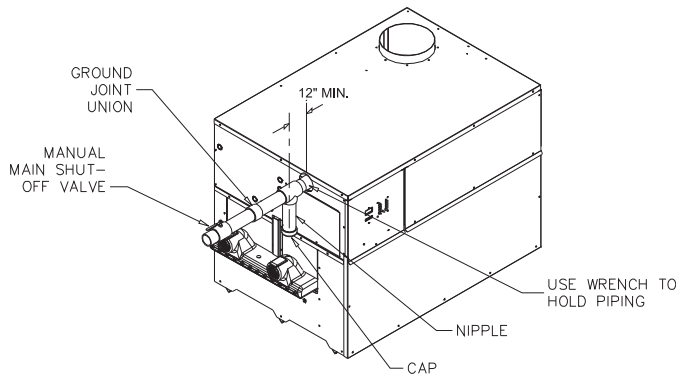

FIG. 28 Gas Line Connection
5. Install a sediment trap in the supply line to the unit's gas inlet (see FIG. 28).